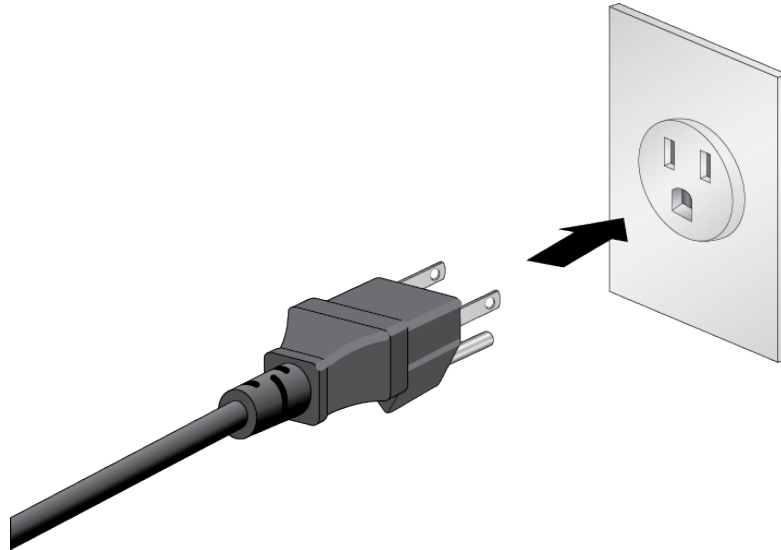

Figure 124. Connecting the Power Cord to an AC Power Source
3. Connect the power cord to an appropriate AC power source. Refer to Figure 124.